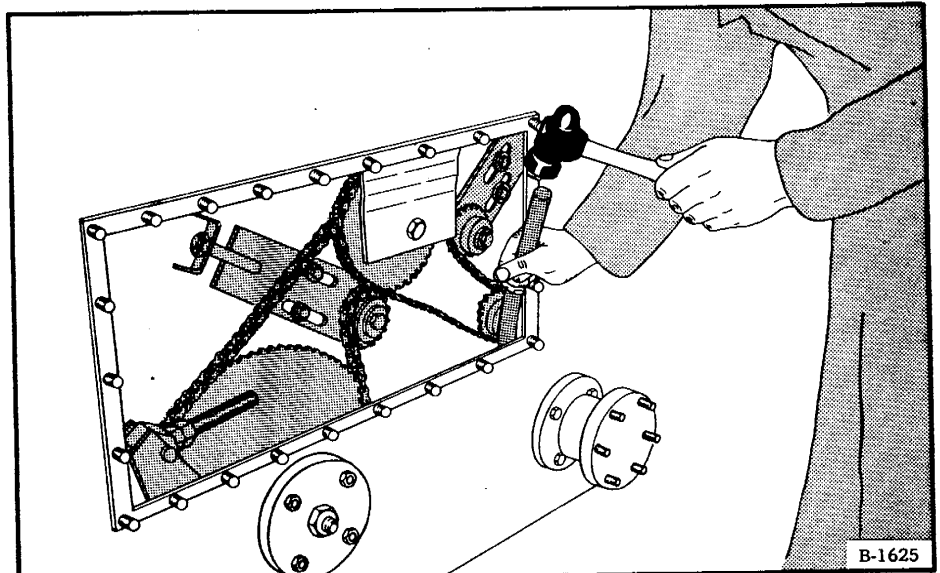

Fig. 4-38 Bending the Locking Washer
(4) Use a long bar to tighten the axle nut to about 400 ft.-lbs. torque.
(5) Remove the axle guide tool from the inside tank wall.
(6) Bend the locking washer over a flat area on the axle nut 180° away from the bent part on the sprocket (Fig. 4-38).
(7) Install the support spacer.